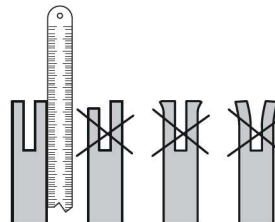

Fig. 49
- > Check the guide bar 'rail' for wear: Hold a ruler (straight edge) against the side of the guide bar and 'cutter side plates'. If there is a not gap between the ruler and guide bar the guide bar 'rail' is normal. If there is a gap (ruler flush against the side of the guide bar) the guide bar 'rail' is worn and needs to be replaced with a new one of the same type (Fig. 49).
- > Turn the guide bar 180° to allow even wear, thereby extending the life span of the guide bar (4).
- > Refit the saw chain (3) and the guide bar (4) as described under "Assembly".